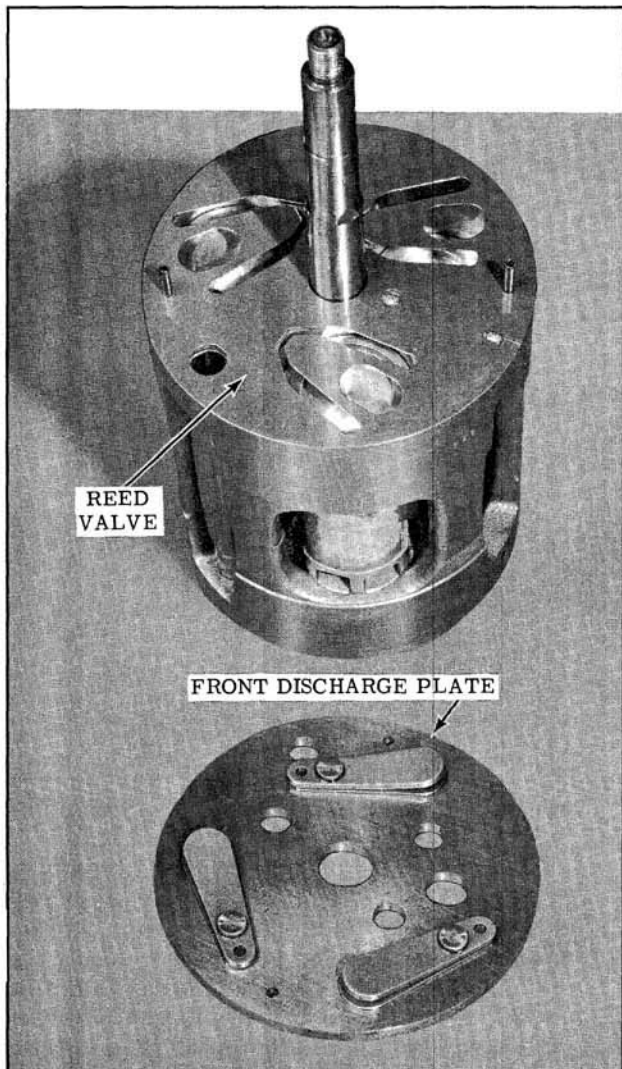

Fig. 14-122 Front Head Discharge Plate and Reed Valve
3. Remove the front discharge valve plate and reed valve assembly. Separate discharge plate from reed valve and inspect. (Fig. 14-122)